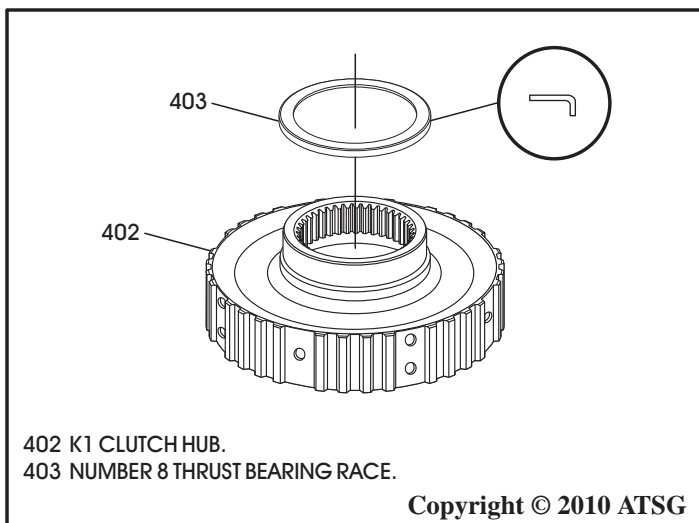

Figure 119
*Note: Number 8 thrust bearing race installs on K1 clutch hub (See Figure 119).*
9. Install number 8 thrust bearing race on the back side of K1 clutch hub, as shown in Figure 119, and retain with Trans-Jel®.